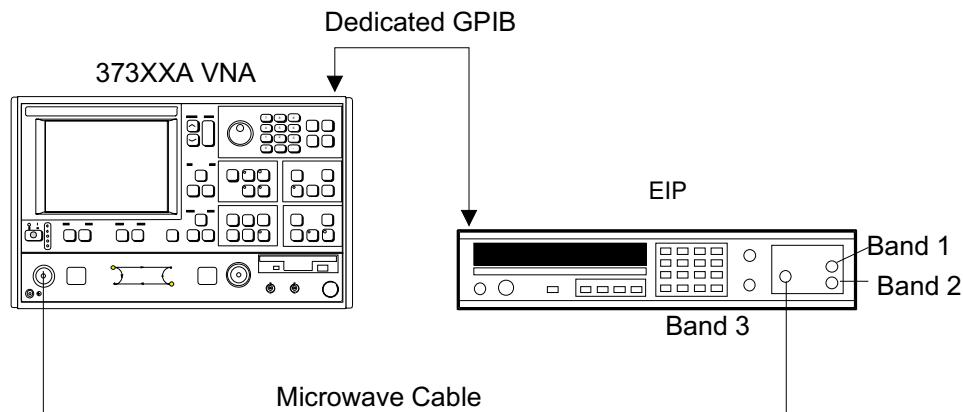

Figure 6-1. Test Setup for Frequency Calibration
- Step 3. Follow the directions displayed on the screen to set-up and connect the frequency counter to the 373XXA. Refer also to Figure 6-1 Select **START SOURCE FREQ CALIBRATION** from menu (above).